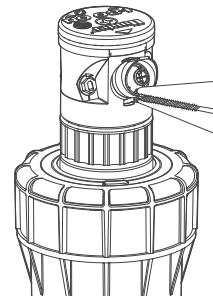
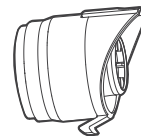

Figure 2
Figure 3
- 3 Using small needle-nose pliers, firmly insert the tip of the pliers into the opening below the nozzle (Figure 2). This action will collapse the nozzle’s retaining hook (Figure 3). While gripping the nozzle, pull outward to remove.